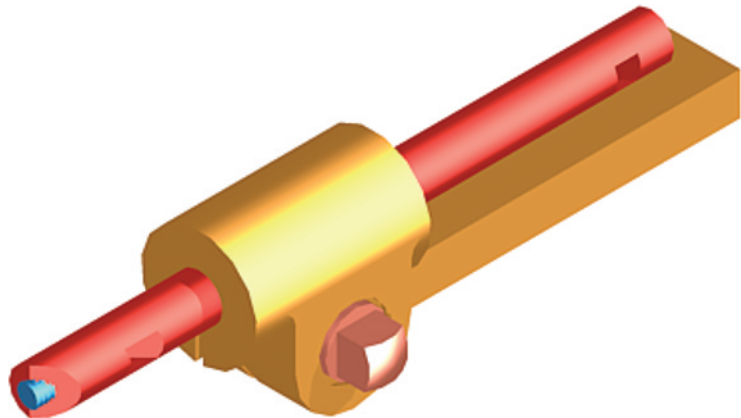

Fig. 16.33 Exercise 1 – a rendering
1. A rendering of an assembled lathe tool holder is shown in Fig. 16.33. The rendering includes different materials for each part of the assembly. Working to the dimensions given in the parts orthographic drawing (Fig. 16.34), construct a 3D model drawing of the assembled lathe tool holder on several layers of different colours, add lighting and materials and render the model in an isometric view.